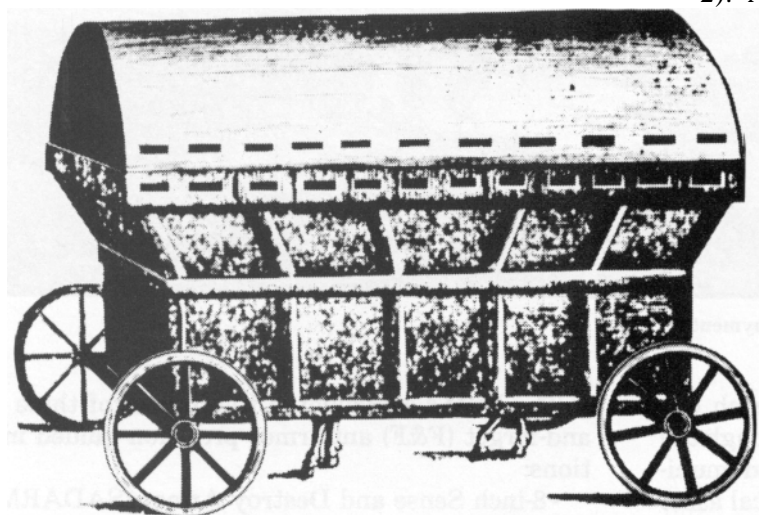
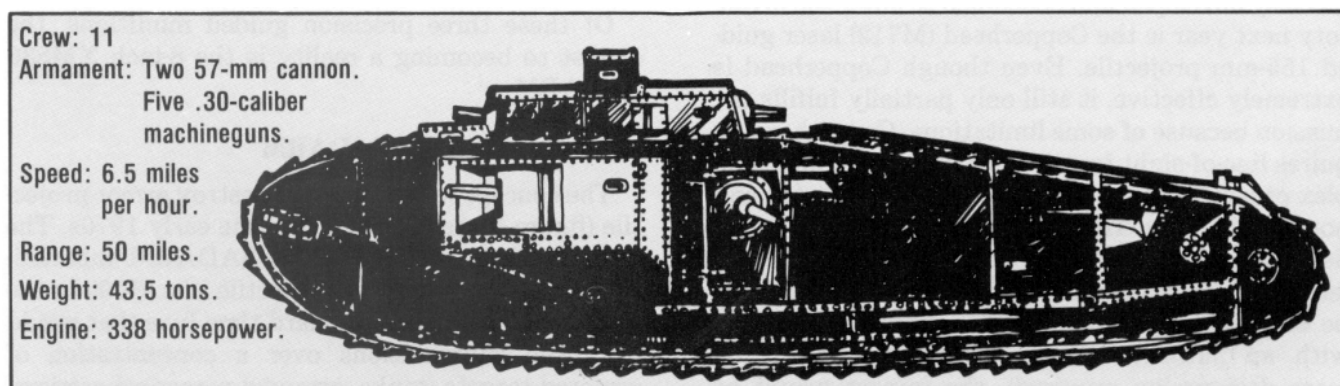

Figure 1. Horse-drawn Scotch war cart (circa 1456).
Figure 2. World War I Mark VIII tank.
(AIFS) program, two such systems are being developed and tested (figure 2). One is a passive infrared (IR) seeker that uses signal processing to search out, identify, and guide on an armored target. The second is an active millimeter wave (MMW) seeker that uses a new and unique signal processing technique for target detection and projectile guidance. Both of these systems are being developed in the 155-mm configuration.
From the beginning of armed conflict, adversaries have progressively developed more lethal combat measures and, for every measure introduced, a countermeasure was developed. For example, shield and body armor was introduced to counter the sword, battle ax, spear, sling, and bow. To counter the shield and body armor, the long bow, crossbow, and eventually firearms were developed. To counter these new higher velocity weapons, wagons of armor were conceived (figure 1) in 1916, the first tank was introduced into armed conflict by the British (figure 2). Although many antiarmor measures have been